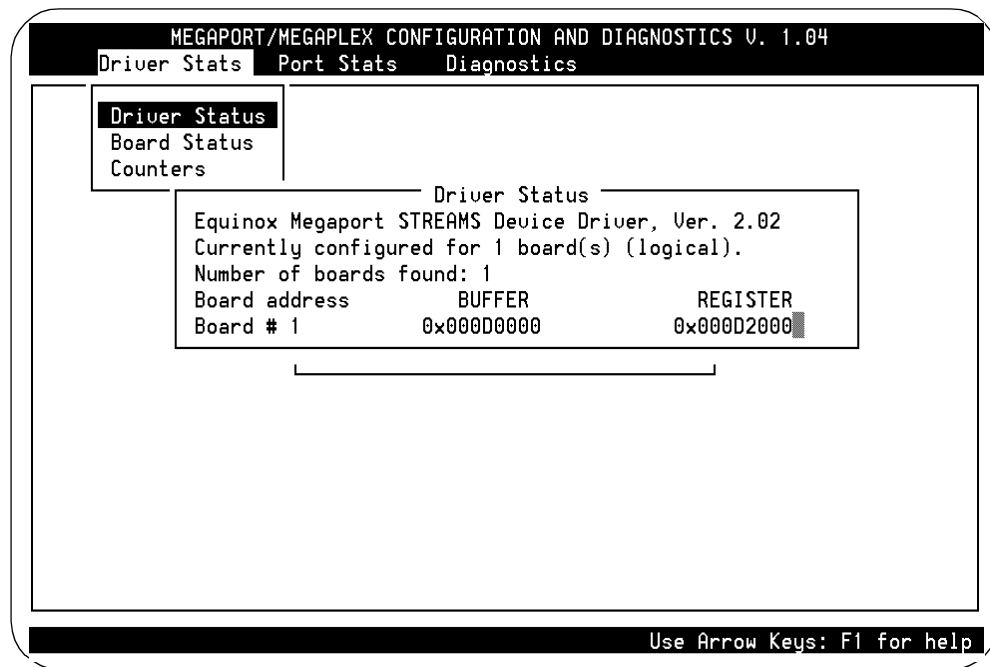

Figure 20-17. Multi-Port Serial Card Diagnostics Screen
A menu bar with three options appears: Driver Stats, Port Stats, and Diagnostics. The first menu, Driver Stats, is open as displayed in Figure 20-17.
1. Display the Multi-Port Serial Card Diagnostics screen (Figure 20-17) using the procedure in the previous section, "Accessing" on page 20-16.
4. Display the Multi-Port Serial Card Diagnostics screen (Figure 20-17) using the procedure in the previous section, "Accessing" on page 20-16.